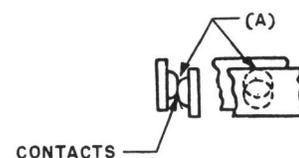

Fig. 2 - Maximum Permissible Contact Misalignment
2.03 **Contact Alignment:** Fig. 2(A) — Contacts shall not be out of alignment by more than two-fifths of their base diameter. Gauge by eye.